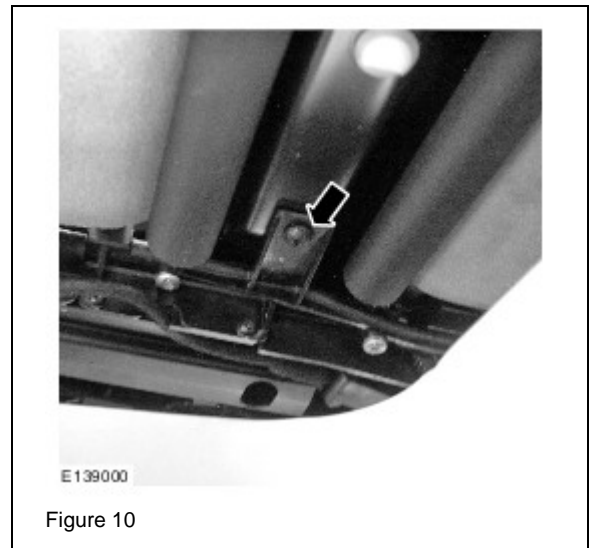

Figure 10
15. Remove and discard the Torx bolt. (Figure 10)